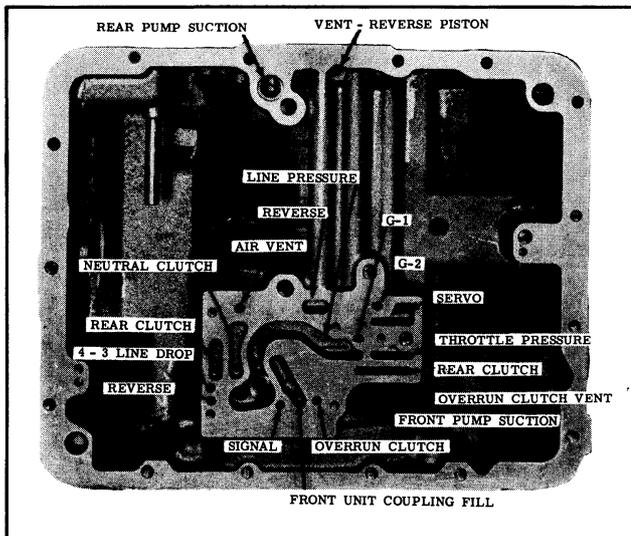

Fig. 3-50 Oil Passages (Bottom of Case)
6. Remove the "O" ring from the oil filler tube boss in the case and discard, then clean and inspect the transmission case. (See Fig. 3-50 and 3-51)